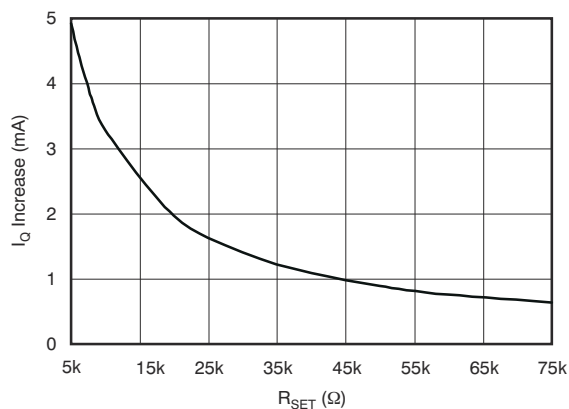

图 6-33. Quiescent Current Increase vs R_{SET}
(1) See セクション 6.6.
(2) Under safe operating conditions; see also セクション 8.1.4.
(3) Minimum current limit is 0.4A ; see also セクション 7.3.1.
(4) Quiescent current increases when the current limit is increased (see also 図 6-33).
(5) R_{SET} (current limit) ranges from $55\text{k}\Omega$ ($I_{OUT} = 400\text{mA}$) to $10\text{k}\Omega$ ($I_{OUT} = 1.6\text{A}$ typical); see also セクション 7.3.1.
(6) Transient load transition time must be $\geq 200\text{ns}$.
(7) See also セクション 7.3.2.
(8) When sourcing, the V_{DIG} supply must be able to supply the current.
(9) Characterized, but not production tested.
(10) Power-supply sequencing requirements must be observed. See セクション 8.3 for more information.